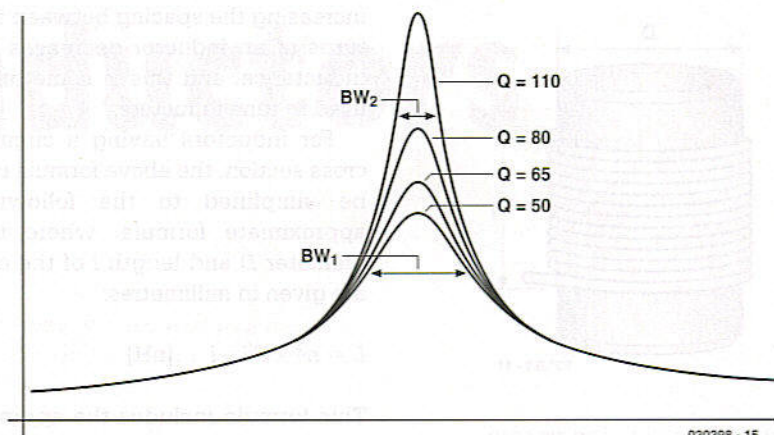

Figure 5. Resonance curves with various Q factors.
**Figure 5** shows resonance curves for several different Q factors. A circuit with  $Q = 50$  has a greater bandwidth ( $BW_1$ ) than one with  $Q = 110$  ( $BW_2$ ). You can also see that the peak value at resonance increases as the Q factor increases. This means that the resonant circuit oscillates more strongly at its resonant frequency. By contrast, the various circuits show nearly the same behaviour in regions far away from the resonant frequency.